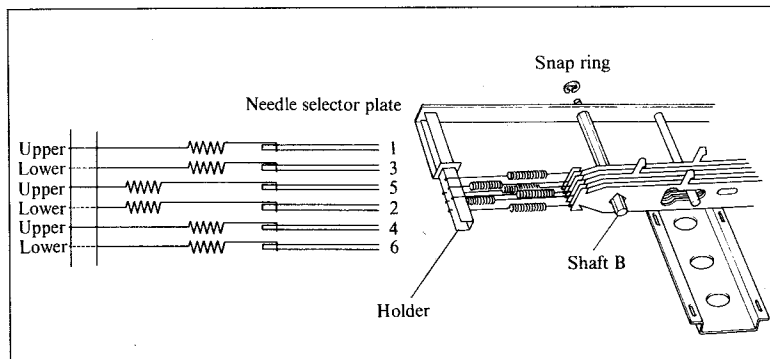

Figure 12-13
(2) Next hook the needle selector plate spring onto needle selector plate 1 and the needle selector plate holder spring hook.
(3) Next place needle selector plate 3 to the needle selector plate holder in the sequence given in (1) and (2) above. Similarly, place the remaining needle selector plates, 5, 2, 4 and 6 to the needle selector plate holder, in that sequence (refer to figure 12-13).
(4) After placing the needle selector plates, insert needle selector plate shaft B (angled) and secure it with a snap ring 2.5 (refer to figure 12-13).